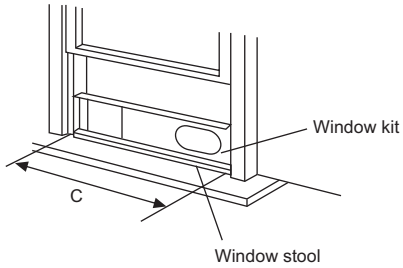

Fig.9
2. Attach the window slider kit to the window stool. Adjust the length of the window slider kit according to the width of window, shorten the adjustable window kit if the width of window is less than 26.5 (Type I) or 22.1 (Type II) inches Open the window sash and place the window slider kit on the window stool. Fig.9